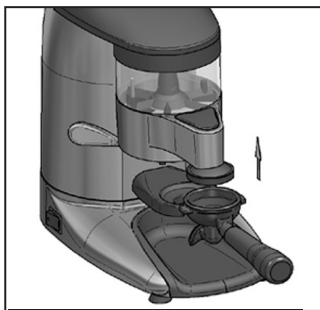

Fig. 8
Take the portafilter and place it under the coffee tamper (12), pressing upwards to pack the coffee. Fig. 8.